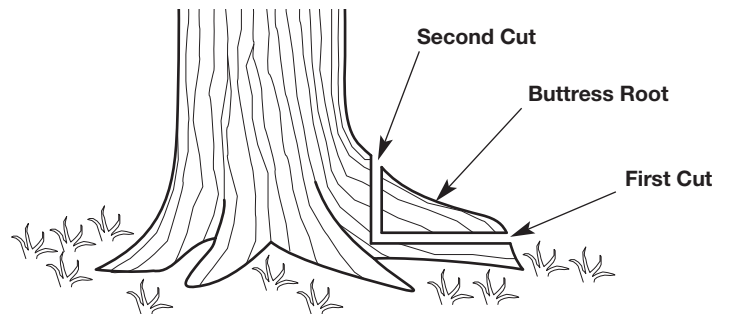

Fig. 13
1. Make a horizontal cut into the buttress root (Fig. 13). To prevent the guide bar from being pinched by the weight of the wood, always make this cut first.
2. Make a vertical cut into the buttress root (Fig. 13).